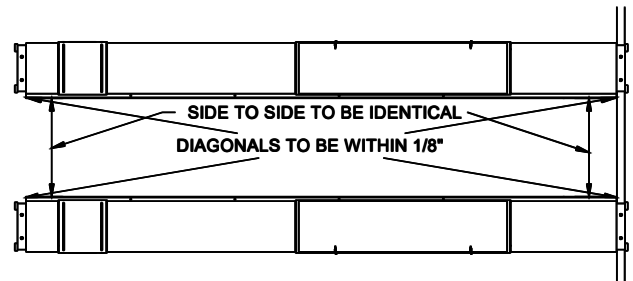

Fig 14 - Final Runway Positioning
- 17) Check the layout of the lift in the bay. (This is the last opportunity to reposition the lift. Take a moment to determine the position of the front column anchors to ensure proper clearance from any crack, edge, or expansion joint. Ensure proper clearance for the lift operator at the Power Unit Controls). Adjust the position of the runways so the distance from power side jack rail to idler side jack rail is the same at the front and rear and the diagonal measurements from the front tip of one rail to the rear tip of the opposite rail are within 1/8", Fig 14.
- 48) Recheck the four runway measurements from **Fig 14**.
- 50) After properly shimming column plumb, loosen anchors and add one shim to both of the two inside anchors to lean the column outward slightly. Make sure lower Slide Blocks are in contact with column and torque all anchor bolts to 150 foot-pounds, **Fig 14**.